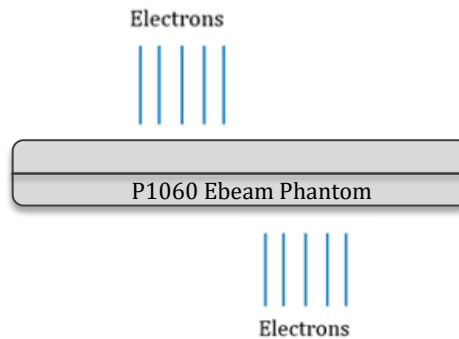

FIGURE 5
- 7.1. The phantom geometry is identical from either side. See Figure 5 below. Irradiate the phantom from either side or dual-sided. Ensure that the phantom is placed perpendicular to the scan horn of the accelerator and irradiate to the desired dose. If the accelerator is mounted horizontally rotate the figure 90°.